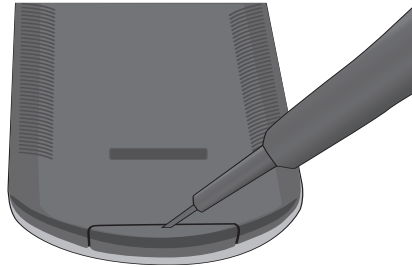

Figure 1
- Remove the battery compartment door inserting a sharp object, such as a paperclip or small screwdriver, into the hole then pulling the battery compartment down. See figure 1.